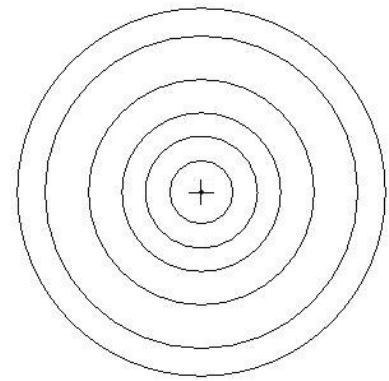

Figure 3-33 Concentric Circles
Step 28: Use  to draw five concentric circles. Note that you must first select the desired circle, then create the new concentric circles. See Figure 3-33.